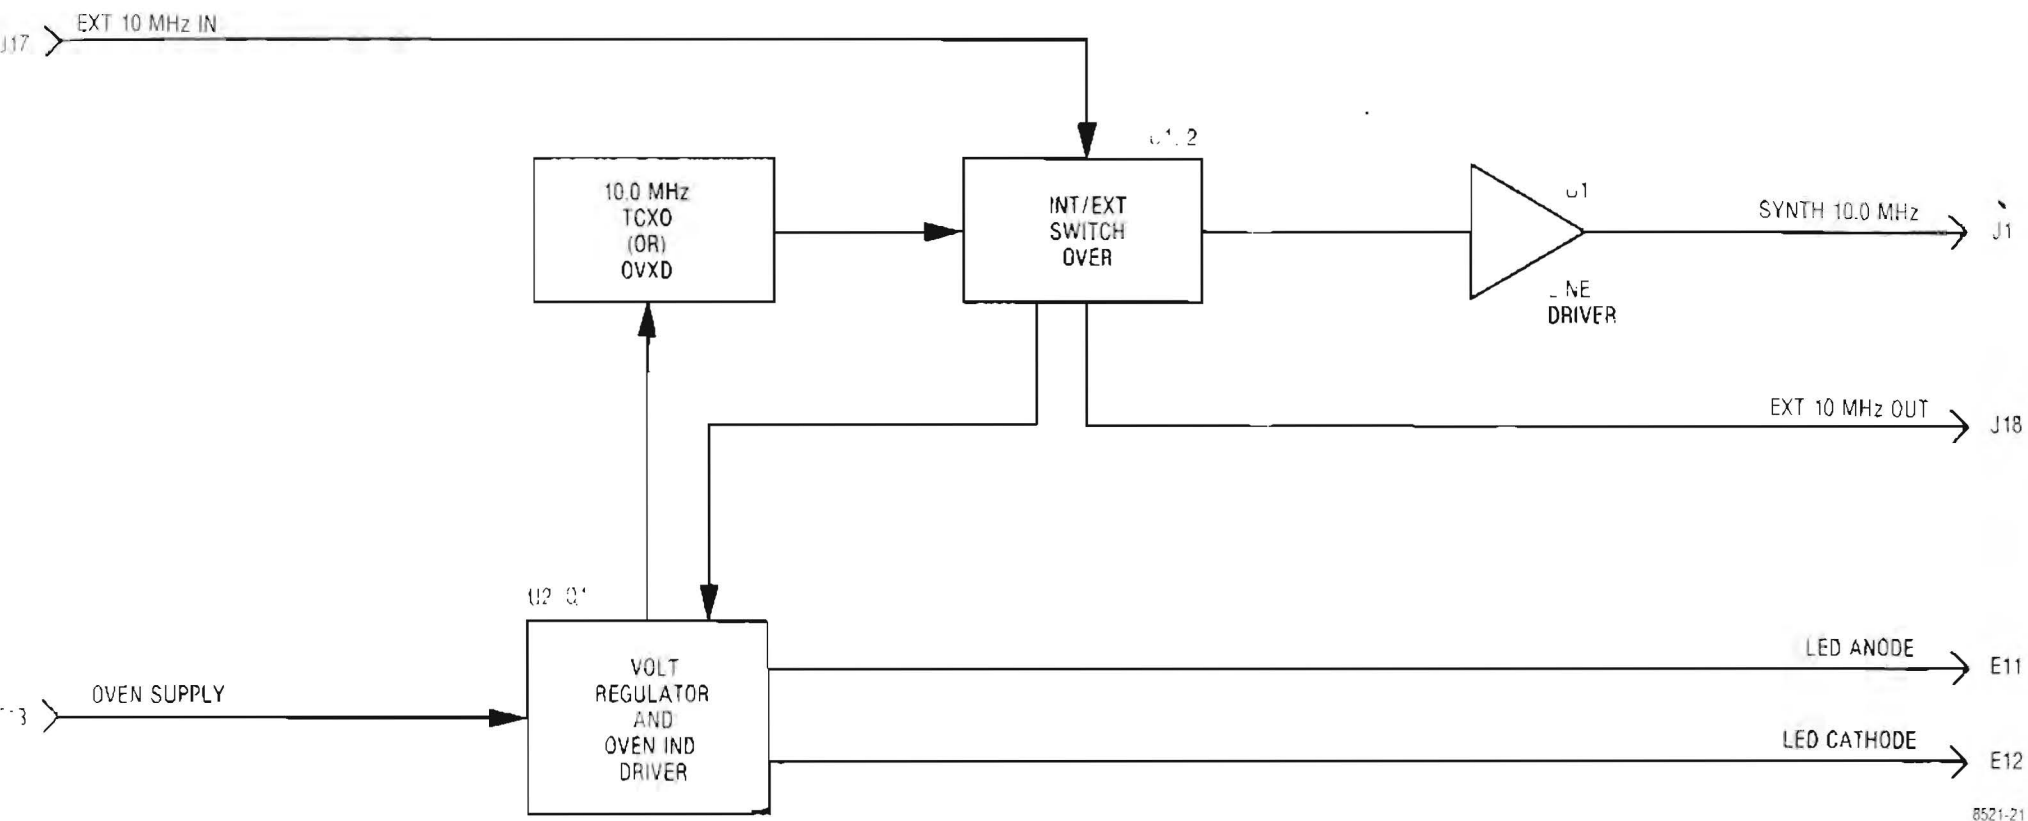

Figure 19-1. Frequency Standard Module
**19-1. General.** The frequency Standard Module provides a stable 10 MHz source and the interface for an external 10 MHz input. A block diagram of the Frequency Standard Module is shown in figure 19-1 with its schematic shown in figure 19-2.